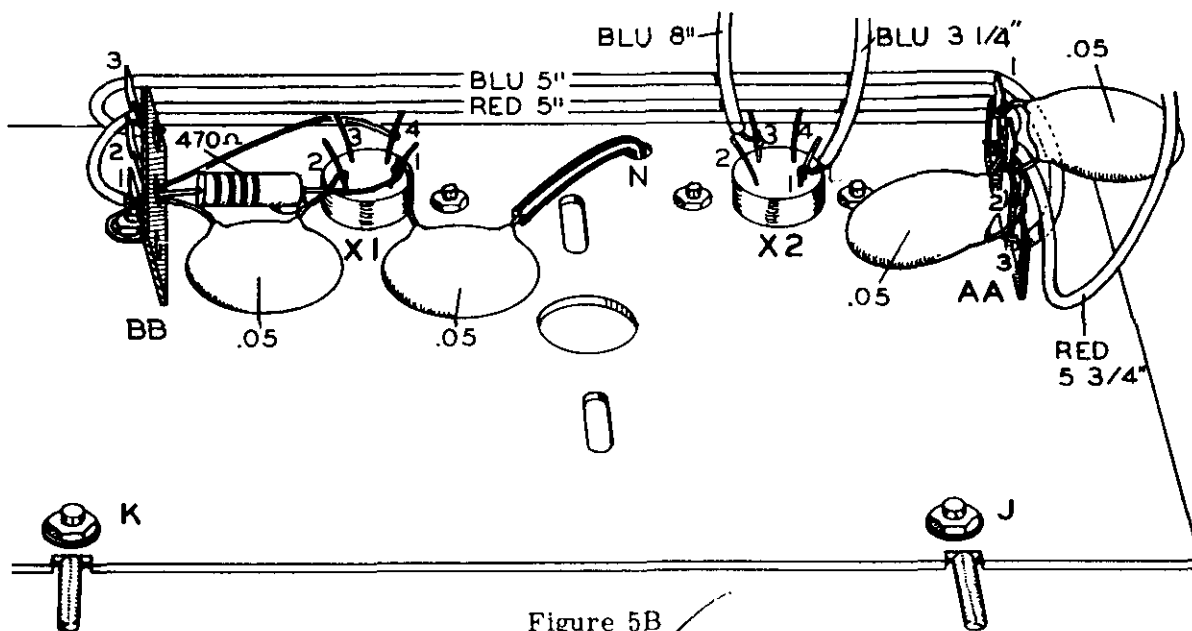

Figure 5B
Refer to Figure 5B for the following steps:
Refer to Figures 5B and 5C for the following steps:
- (✓) Cut both leads of a 62 KΩ resistor (R1, blue-red-orange) to 3/8" in length. Connect one lead to pin 2 of transistor socket X1 (NS). Connect the other lead to lug 3 of terminal strip BB (NS).
- (✓) Cut both leads of a 1 KΩ resistor (R2, brown-black-red) to 3/8" in length. Connect one lead to pin 2 of transistor socket X1 (S-3). Connect the other lead to lug 1 of terminal strip BB (NS).
- (N) Insert one end of a 5" length of blue wire in the eyelet of lug 3 terminal strip BB and solder (S-1, eyelet only). Routing behind both red wires and the .05 μfd capacitor, connect the opposite end to the eyelet of lug 3, terminal strip AA (S-2, eyelet only). See Figure 5B.
- ( ) Connect the free end of the shorter (5") red wire to lug 1 of terminal strip BB (S-2). See Figure 5B.